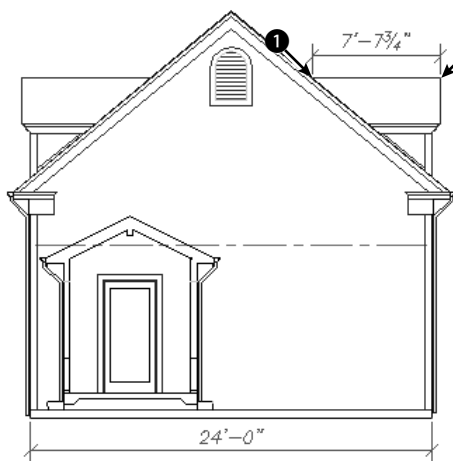

**Figure 15-27:** The dimension style is now complete.
10. To see how the stacked fractions appear, create a linear dimension from ❶ to ❷ in Figure 15-27. If necessary, zoom in to see the dimension text clearly.
11. Return to the previous view if you zoomed in. Save your drawing. It should look like Figure 15-27.